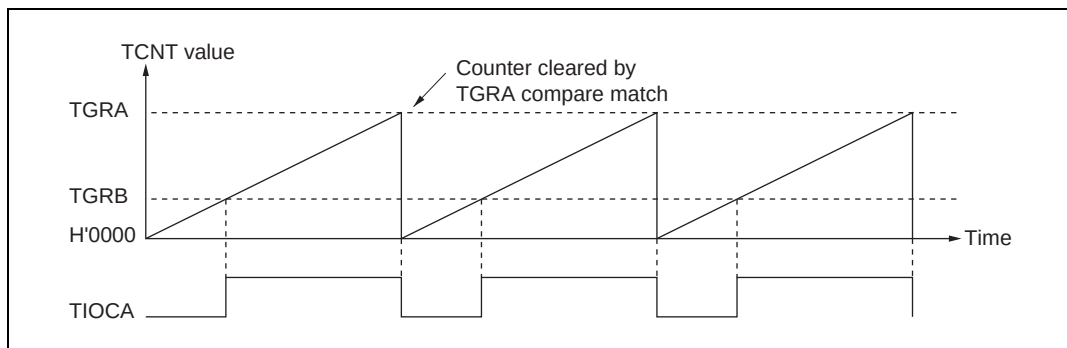

**Figure 9.25 Example of PWM Mode Operation (1)**
**Examples of PWM Mode Operation:** Figure 9.25 shows an example of PWM mode 1 operation.